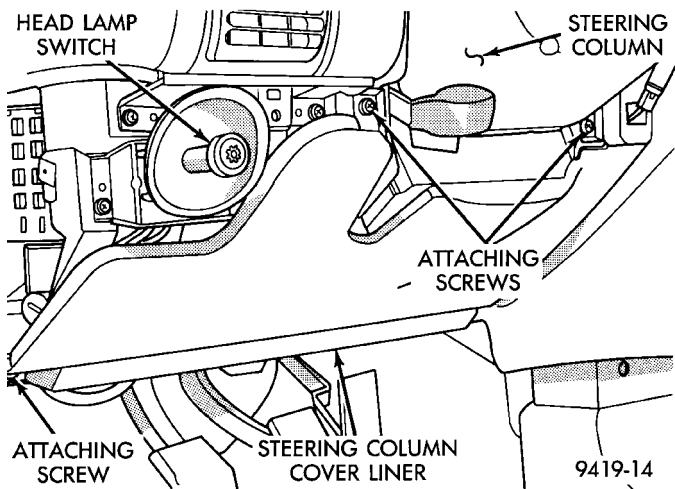

Fig. 7 Steering Column Cover Liner
(4) Remove 3 screws (Fig. 7) attaching the steering column cover liner to the instrument panel. Remove the liner from the lower instrument panel.
(10) Install the lower instrument panel steering column cover liner onto lower instrument panel. Install and securely tighten the 3 liner to instrument panel attaching screws (Fig. 7).